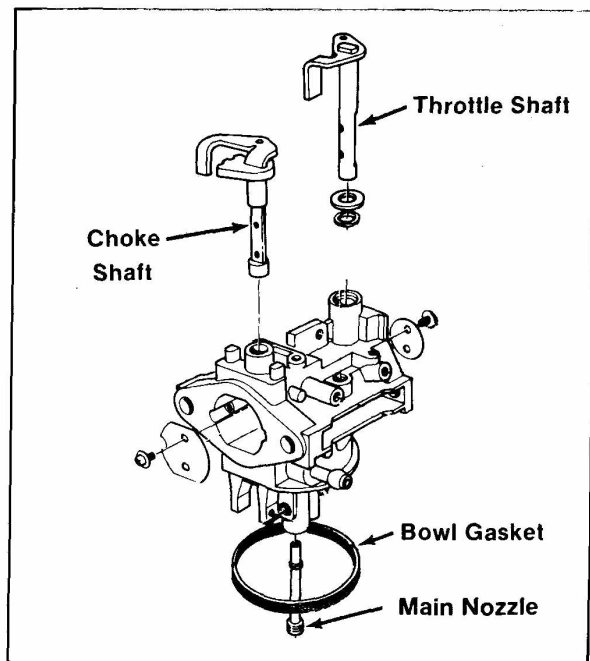

Figure 3-7
8. Carburetor disassembly is completed by removing the choke and throttle shafts and the main nozzle. The bowl gasket is also replaceable and should be removed prior to service or cleaning of the carburetor. See Fig. 3-7. To withdraw the choke and throttle shaft, the choke and throttle plates must be removed. Each plate is retained with two screws.